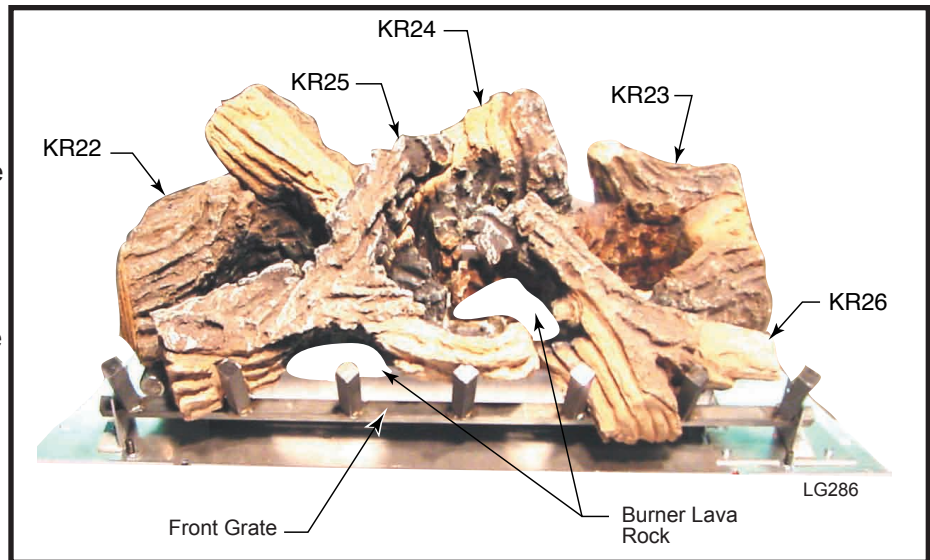

Fig. 23 LHECDV30 and LHERDV30 log and lava rock placement.
LHECDV30, LHERDV30 (Fig. 23)
- a. Place the rear center log (KR24). Use the log's bottom holes to locate it onto the two (2) pin studs of the rear log bracket on the center.
- b. Place rear left log (KR22). Use the log's bottom holes to locate it onto the two (2) pin studs of the rear log bracket on the left.
- c. Place rear right log (KR23). Use the log's bottom holes to locate it onto the two (2) pin studs of the rear log bracket on the right.
- f. Place the burner lava rock on the front area of the burner housing. (Fig. 23)